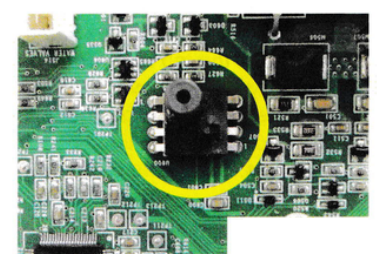

FIGURE 10
- Important:** Before securing the backsplash to the top cover, ensure the pressure hose did NOT slip off of the port on the main board. *See Figure 10.*